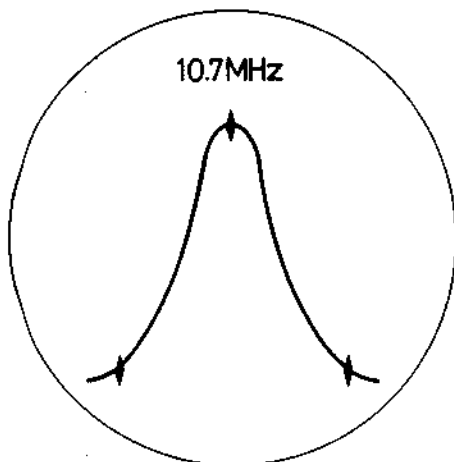

Fig. 2
- (b) Adjust the upper and lower cores of T-201, T-202, T-203, T-205 and bottom core of T-204 to obtain the waveform as shown in Fig. 2. Adjust to as maximum an amplitude as possible.